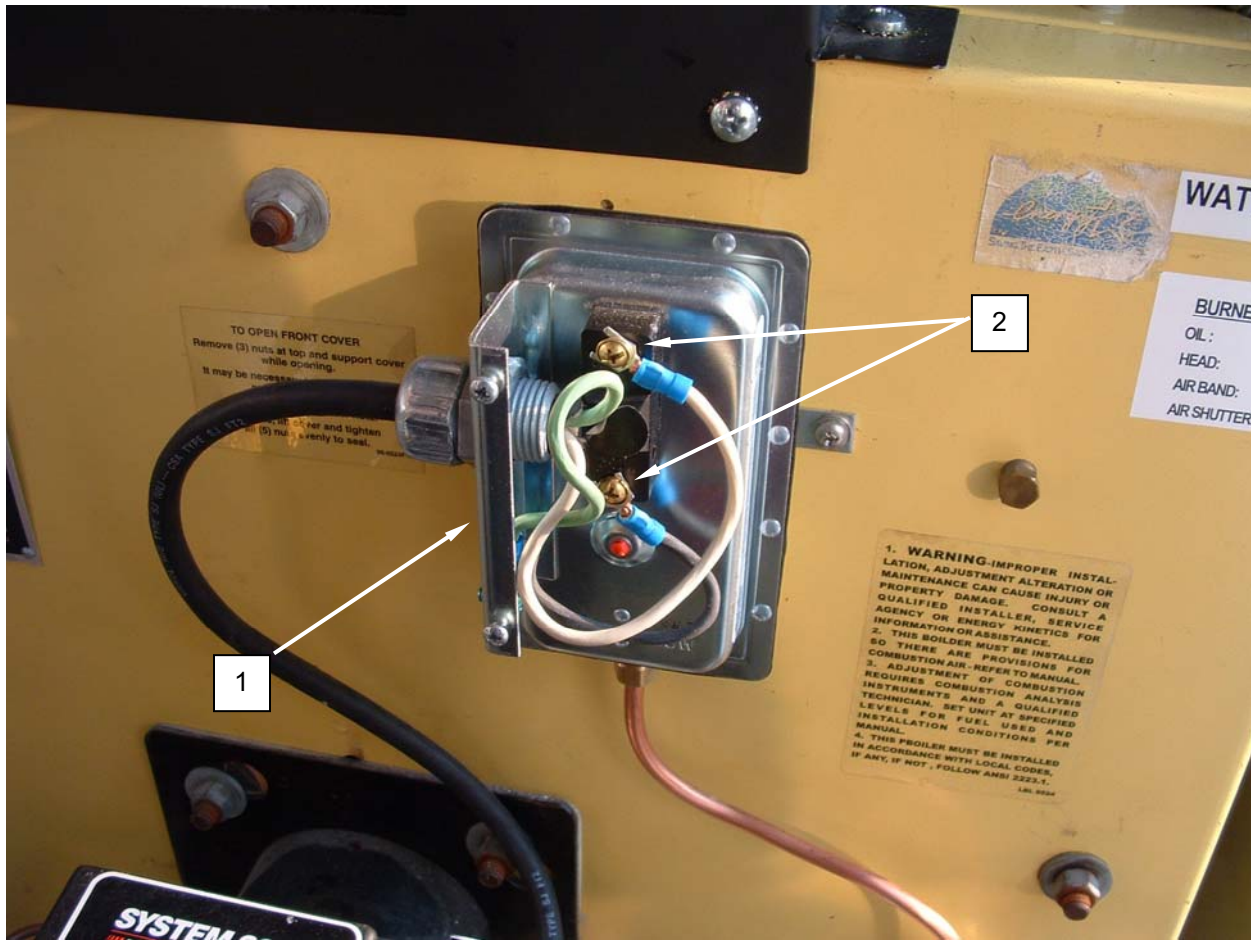

Figure 1. Test the Exhaust Gas Sensor.
1. Switch boiler OFF at circuit breaker No. 22 and remove cover from exhaust gas sensor (**Figure 1, Item 1**).
2. Tag and disconnect wiring at terminals (**Figure 1, Item 2**).
3. Use a ohmmeter to check for continuity at terminals (**Figure 1, Item 2**). Replace an open exhaust gas sensor.
4. Install cover on exhaust gas sensor (**Figure 1, Item 1**).